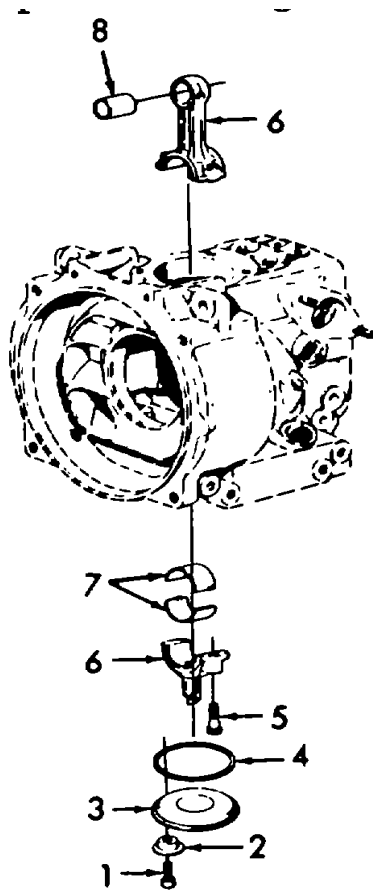

Figure 6-4. Connecting Rod Removal.
- a. Removal. (Refer to figure 6-4).